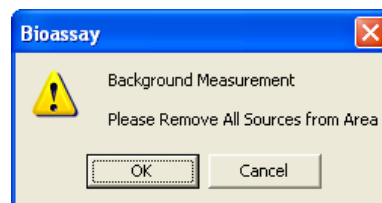

Figure 11-20
3. To start the measurement, click the **Start Procedure** button or press *Alt+S*. The screen appears as shown in Figure 11-20.